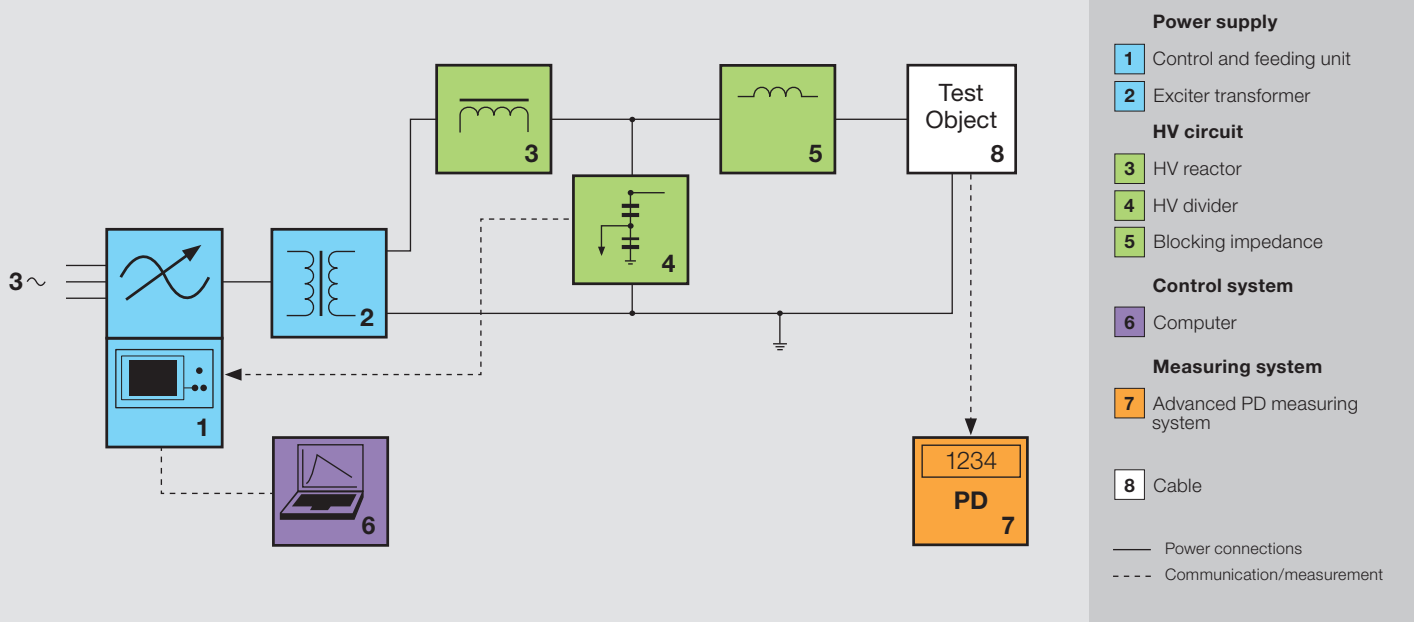

Fig. 2 Block diagram of AC resonant test system for on-site testing of extruded cables
The control and feeding unit (1) [see fig. 2] consists of a static power inverter and a control system. The power inverter converts the three-phase input voltage into a single-phase output voltage with a rectangular waveform.